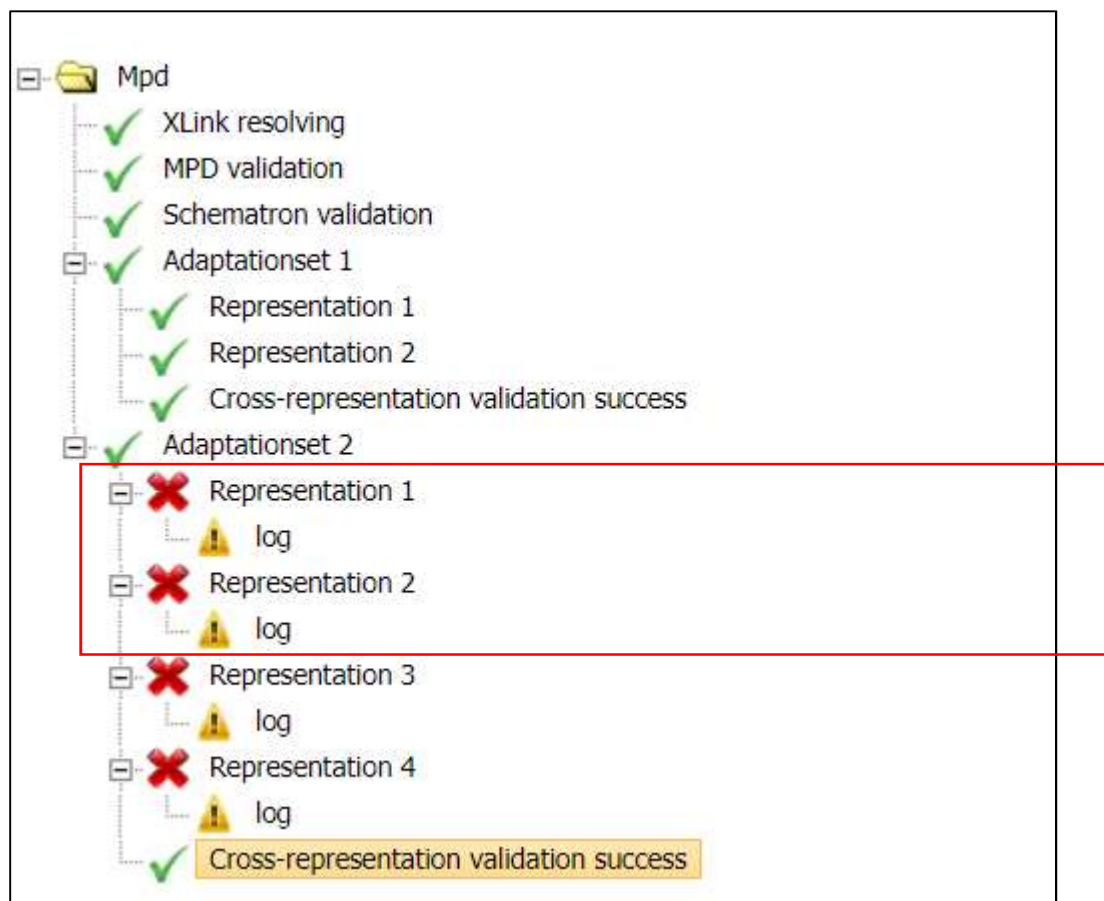

Figure 13 Showing conformance error in Segment Validation
10. When there is no conformance issue with MPD validation, then the software conducts Segment Validation and rest of the results are produced. Similar to MPD result display, when there is any conformance error in any Representation, a 'wrong' icon is displayed with the link to its error log report (Refer Figure 13).